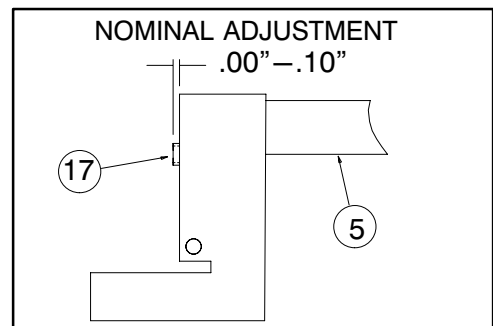

FIGURE 6
2. Adjust Set Screw (Fig 6, #17) as required to ensure that:
- a. When Actuator Arm (Fig 6, #5) is released, valve is completely closed.
- b. When Actuator Arm (Fig 6, #5) is raised, valve is fully opened and no air is exhausted from the lower vent hole.